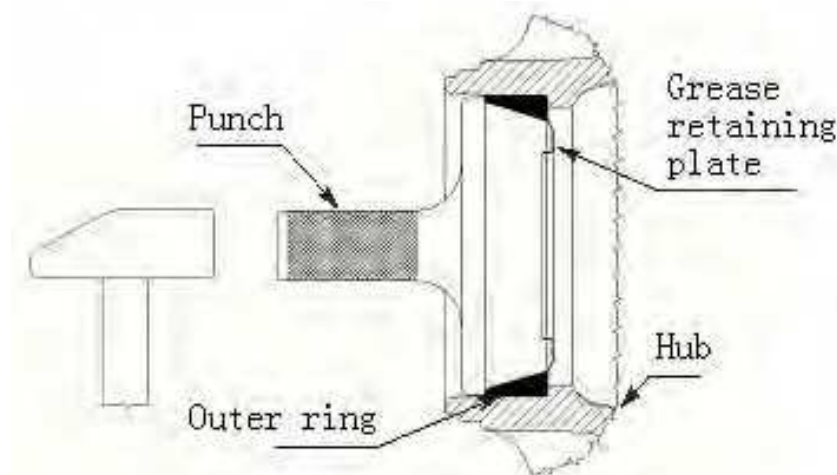

Fig. 27
- Fit the bearing cups and punch into place using a mild steel punch as shown in **Fig. 27**